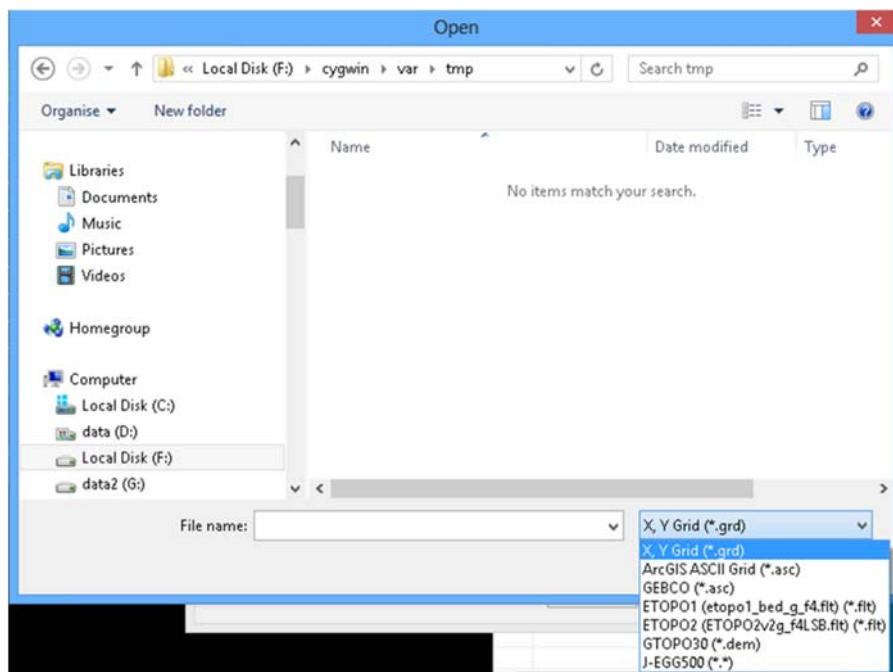

Figure 21 — Example dialog for editing topography data sets
To edit an existing topography data set, select the topography data set you want to edit on the dialog shown in Figure 17 and click the Edit (E) button. The dialog shown in Figure 21 will open. On this dialog, you can add, edit, and delete topography data. See Section 4.3 for a description of the topography data editing operations on this dialog.